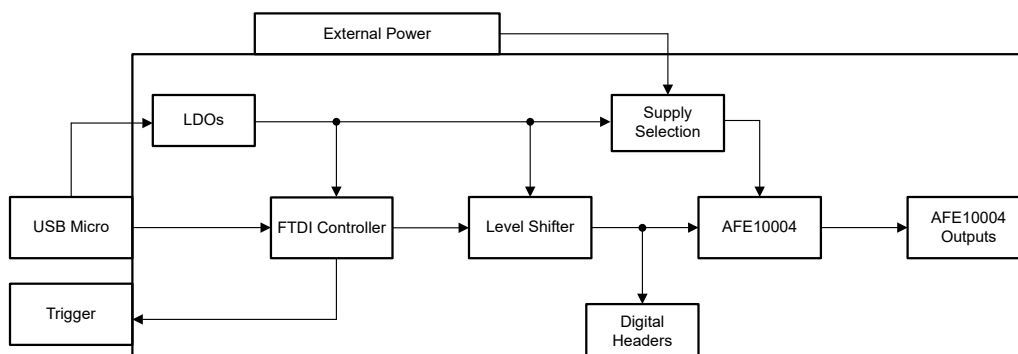

Figure 1-1. Theory of Operation Block Diagram
The AFE10004EVM is connected to a personal computer (PC) using the USB cable that is supplied with the EVM. The EVM board features connectors and test points for all communication lines, DAC outputs, digital pins, and supplies. Figure 1-1 shows a block diagram of the AFE10004EVM.